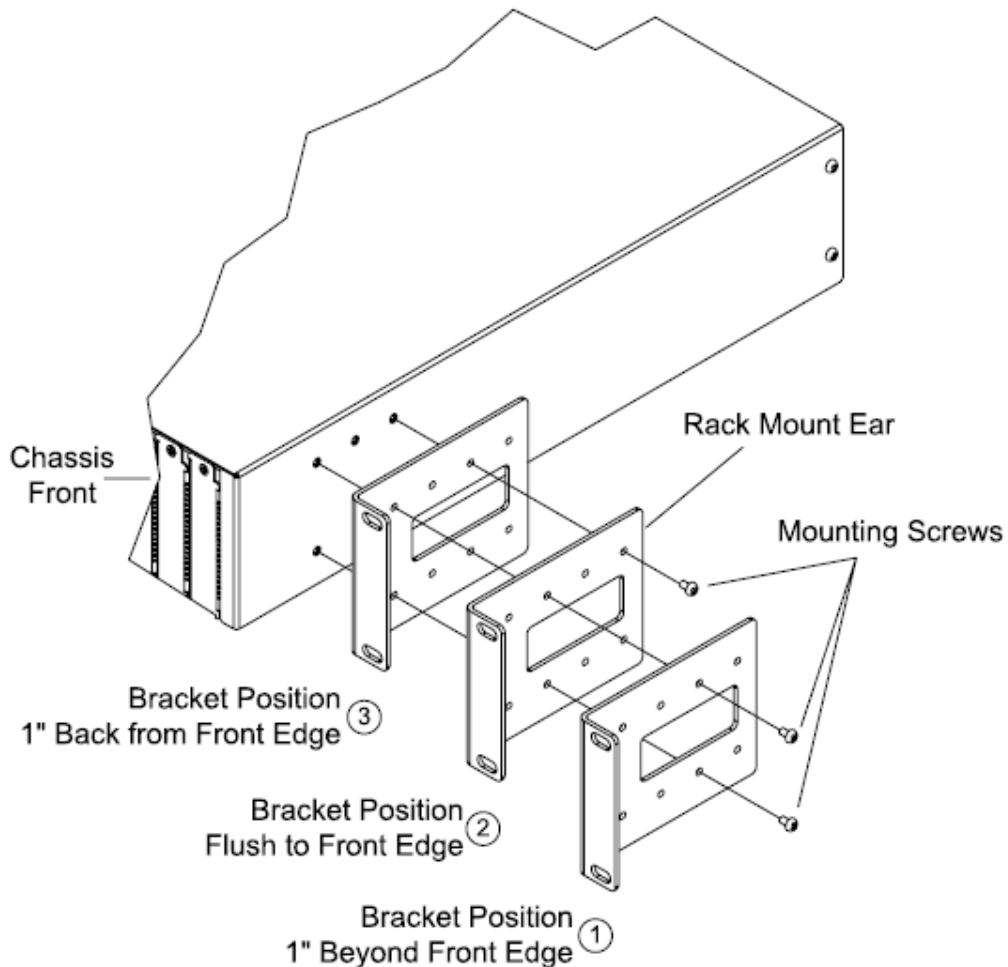

Figure 7: ION219-x Rack Mount Ear Installation
Note: Installation rack-mount-ear mounting screws (cover-to-frame screws, see Figure 7 below) are provided. Rack mount “screws” and “clip nuts” are NOT provided.
2. Using a Phillips screw driver, remove the six (6) cover-to-frame screws (three on each side of the chassis). See Figure 7 below.
3. Align the mounting bracket in the selected installation position, as shown in Figure 7 below.
4. Using a Phillips screwdriver, install the three (3) screws to mount the rack mount ear to the side of the chassis. See Figure 7 above.